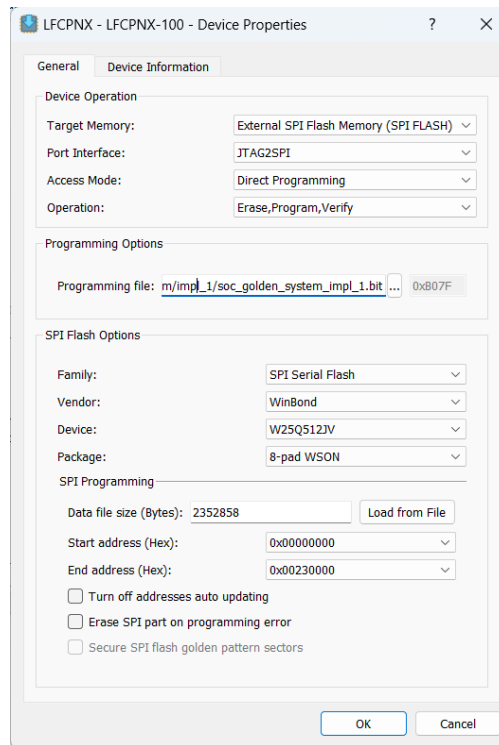

Figure 9 Device Properties Dialog for SPI Flash Programming Setting
6. Browse to choose the programming file “soc_golden_system_impl_1’.bit (Figure 9).